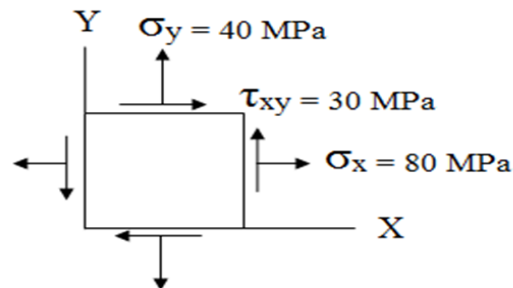

Figure 1
- (b) At a point in the structural member, the stresses are represented as shown in Figure 1. Determine